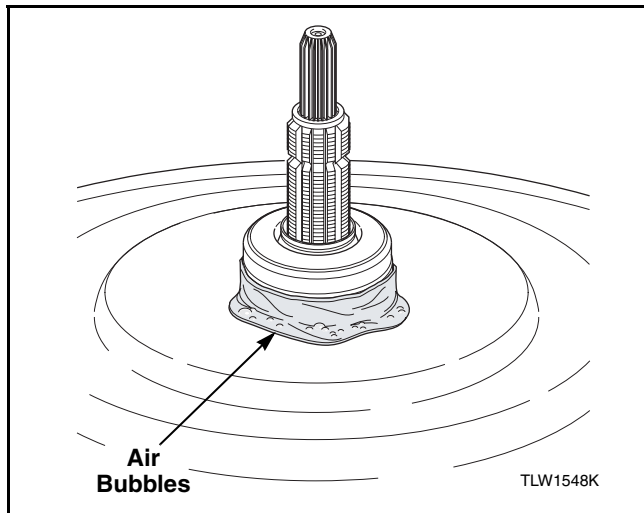

Figure 65
- (1) After wiping sealant around seal, look for air bubbles forming through the sealant. In most cases bubbles will form where sealant application was started and ended. However, if sealant was not applied smoothly, air bubbles might appear in other areas. Refer to *Figure 65*.
- (2) Wait approximately 30 seconds and carefully look for bubbles sticking out of sealant.
- (3) Add more sealant over bubbles and wipe over additional sealant.
- (4) Look for air bubbles again and repeat procedure if necessary.